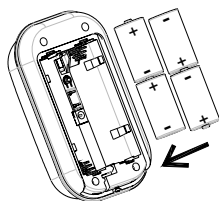

FIGURE 3
- Insert 4-LR14 1.5V size alkaline batteries to the battery compartment, ensuring correct polarity is put (FIGURE 3).